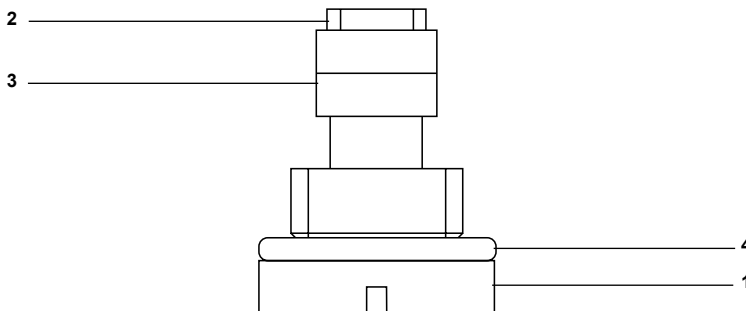

Fig. 45
- Fit the 'O' ring (4) and filter (3) onto the filter plug (1) (refer to Figure 45).
- Finally fit the retaining screw (2).